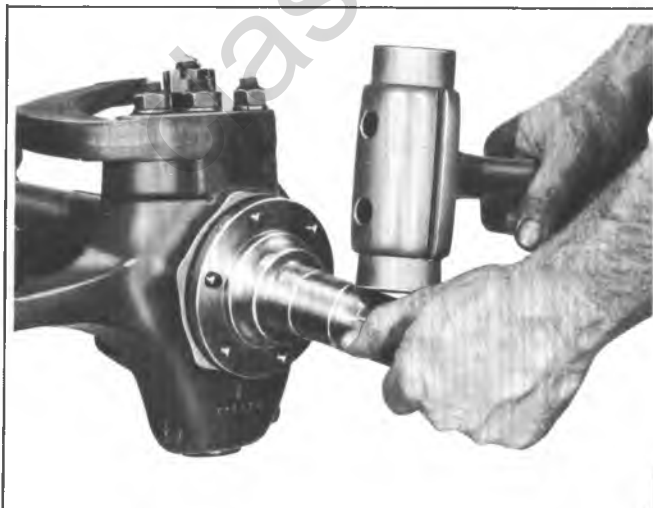

Fig. 3C-6K--Removing Spindle and Thrust Washer
c. Remove nuts and disconnect the tie rod. If it is necessary to remove the steering arm, discard the self-locking nuts (Fig. 3C-9K) and replace with new nuts at assembly.
4. Remove the retaining nuts from the upper and lower ball sockets as shown in Figure 3C-10K.